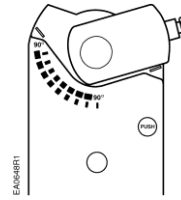

**Figure 11.**
2. Remove the clip and shaft adapter from the actuator. See Figure 11.